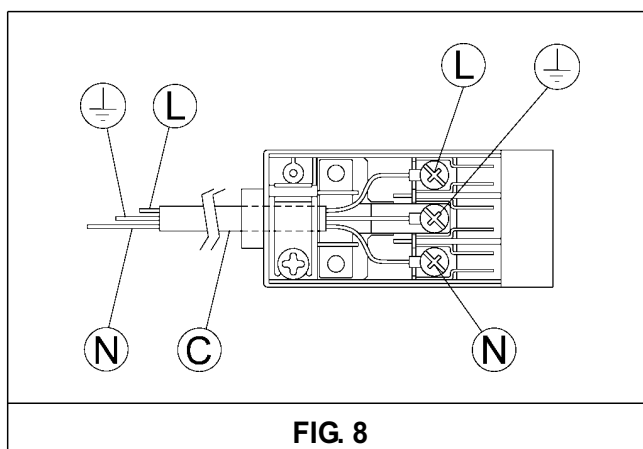

FIG. 8
- Fit the wires following figure 8, taking care of respecting the following correspondences: